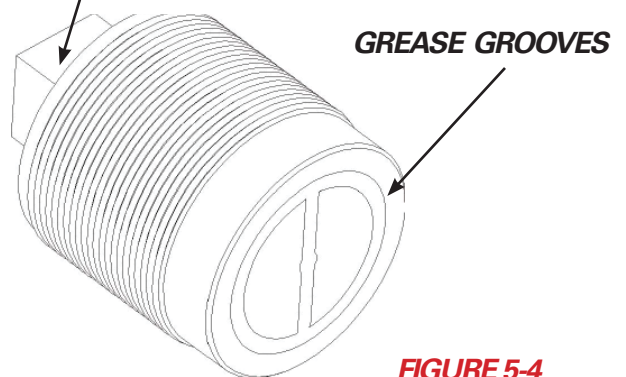

FIGURE 5-4
2. Look at the face of the slide screw to determine if there are still grease grooves (see **Figure 5-4**). If the grease grooves are worn away, it will be necessary to replace the slide screw. If the slide screw needs to be replaced, continue on with step 3.